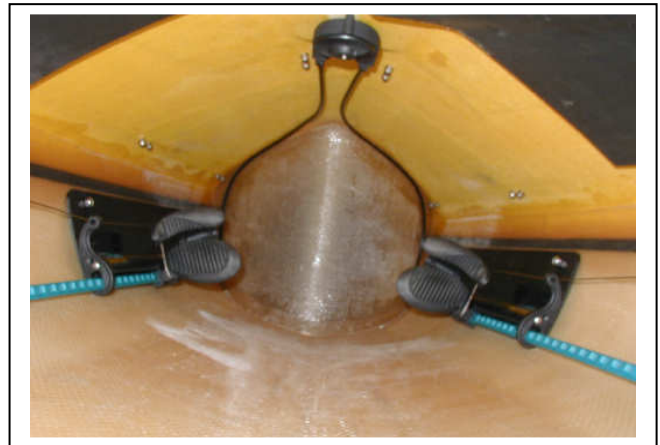

Fig. 1 – View inside kayak with Trim Tab installed.
b. You now need to determine the length of Cable Tubing that will need to travel between the Trim Tab and the lower cable hole on the front end cap of the Foot Controls. The easiest method for this is to use the actual Cable Tubing for this measurement. Holding the end of the Tubing at the Cable Adjustment Bolts on the Trim Tab, push enough Cable Tubing forward to form a "J" shaped loop that reconnects at the front end cap of the Foot Controls. Ideally, this loop should lay against the deck of the kayak, drop down along the front bulkhead, and loop back to the front end cap of the Foot Controls. (Fig.1) If your Trim Tab is not centered on the deck of the kayak, make sure to take two separate right and left measurements between the Trim Tab Cable Adjustment Bolts and the front end cap of the Foot Control. Carefully cut the Cable Tubing to the two desired lengths. We recommend using a sharp razor knife, as scissors tend to crimp the tube.
f. If desired, install the Cable Clips at an appropriate location along the Cable Tubing to secure it in place. Note: The Table Tubing is usually stiff enough to remain in looped against the deck and bulkhead without the aid of Cable Clips. (Fig. 1)